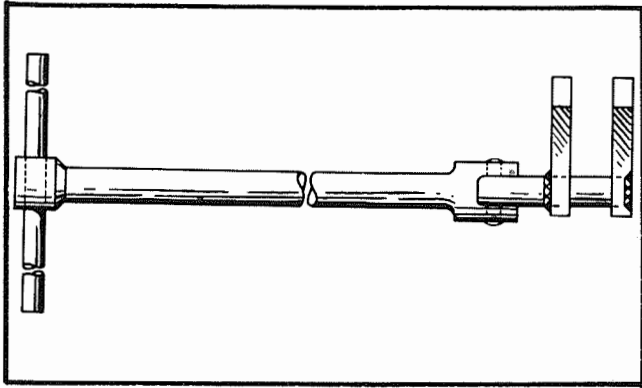

Figure 7-63. Cylinder Intake and Exhaust Air Deflector Installing Tool
**7-157. REMOVAL.** Disengage the spring-loaded clamp joining the intake and exhaust air deflector using tool 804504 (figure 7-63). Unsnap the fasteners in the rubber pad seal. Remove the attaching screws using a 7/16 inch wrench. Work the deflector around to the front of the cylinder, and remove.